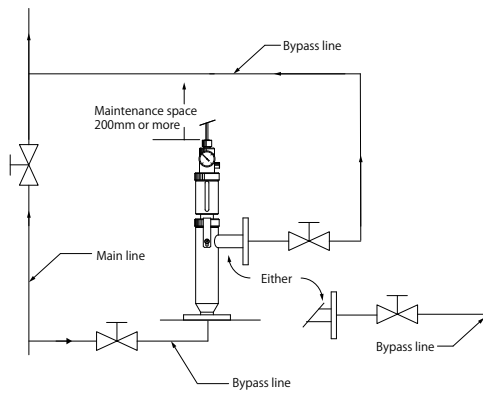

Fig.1
- Do not mount the pH flow chamber on the main line. Always install a bypass line before installation. (Otherwise maintenance cannot be performed without stopping the main line.) To install the pH flow chamber, install a bypass line to the main line and mount so that the measured liquid flows in from the bottom of the pH flow chamber and out from the side. Always install valves on the inflow and outflow sides. See [Fig.1]